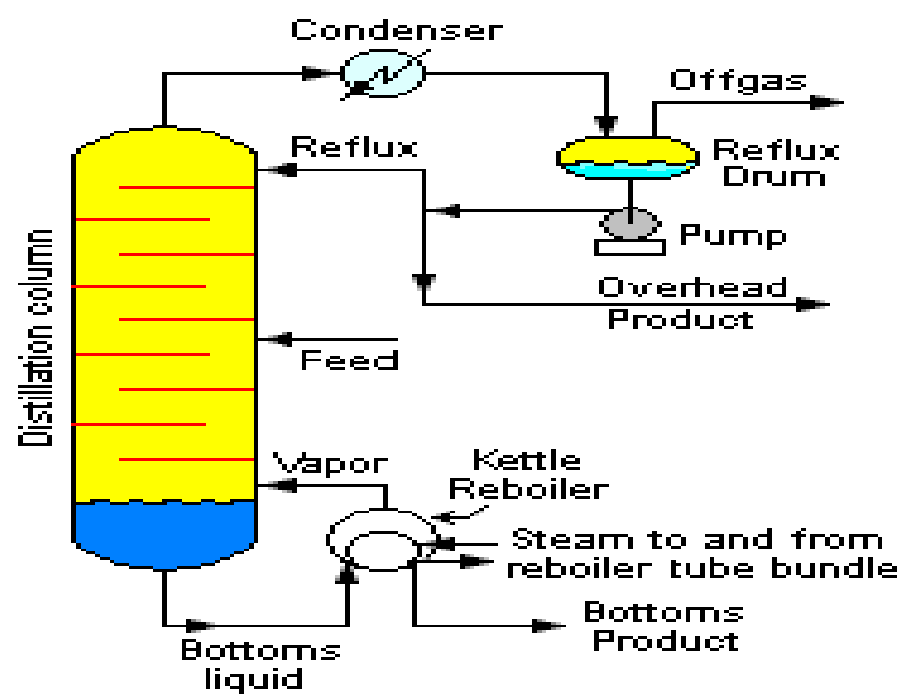

Figure 3: Fractional distillation process
4. Nitrogen is collected as an offgas and overhead product (Figure 3). What is the state of the overhead product at room temperature?